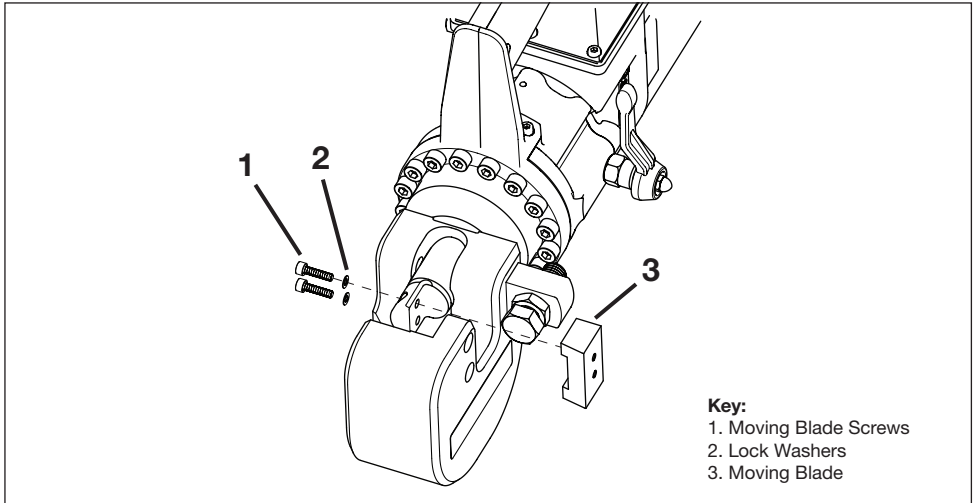

**Figure 9, Fixed Blade Replacement**
Replace the fixed blade as described in the following steps. Refer to Figure 9, items 1 and 2.